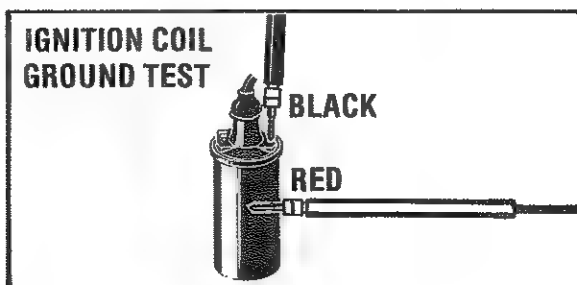

Figure 17. Ignition Coil Ground Test Hookup.
5. Touch one test probe to either coil primary terminal and the other test probe to ground on the coil case, as illustrated in figure 17.